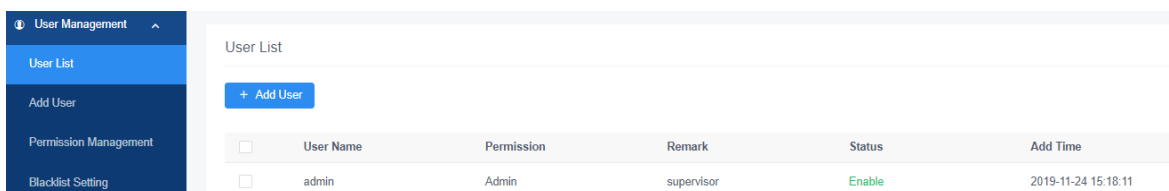

Figure 3-2-4 User List Page
1. Click the User List in the User Management button at the top of the screen. The User List screen in Figure 3-2-4 appears. A list of users is listed on the left side of the user administrator page, with their more detailed information displayed on a large block in the center.